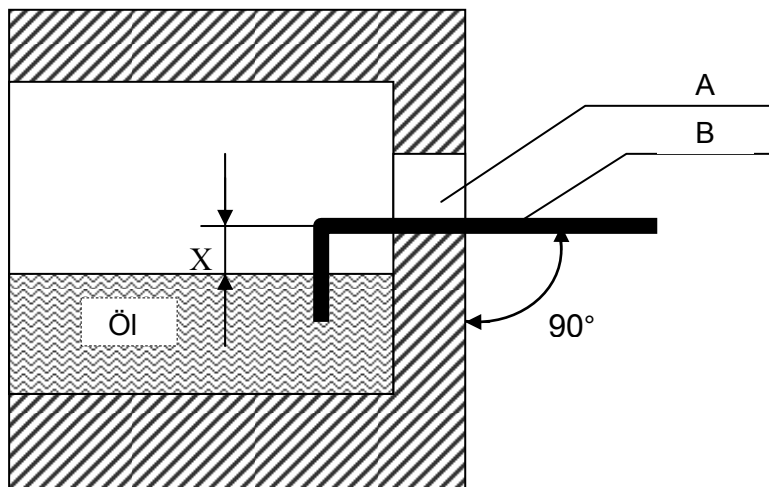

Fig. 3 Oil level control with auxiliary tool
- min. oil level: X mm below the bottom edge of the oil level bore (see Fig. 3).